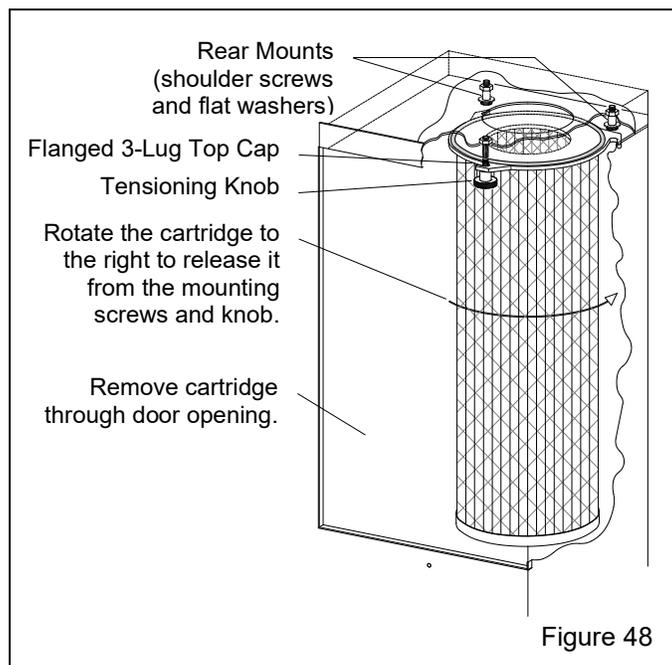

Figure 48
7.13.3 The filter cartridge is secured with a twist-to-release 3-lug top cap. Loosen the tensioning knob enough to rotate the filter cartridge to the right to release it from the two rear shoulder screws, as shown in Figure 48, but do not release the cartridge from the mounts at this time.